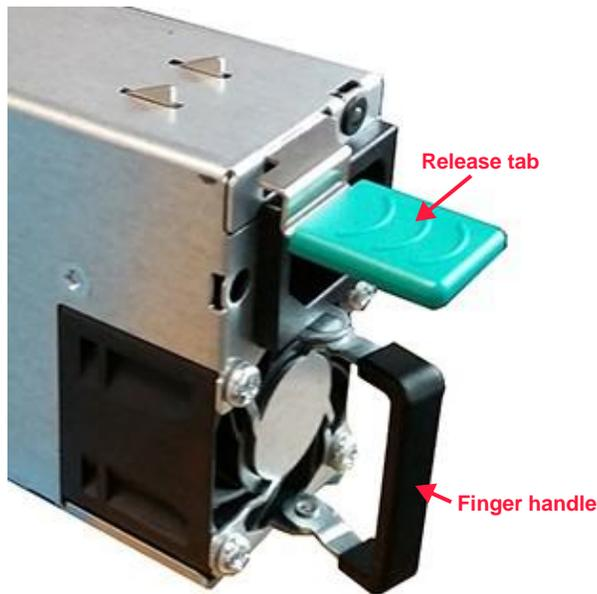

Figure 6.18 PSU removal
- Press down on the release tab to release the cam. The release tab cannot be pressed if the power cord is still plugged into the PSU jack. The release tab is shown in Figure 6.18.
- Pull the PSU out of the enclosure by the finger handle. The finger handle is also shown in Figure 6.18.